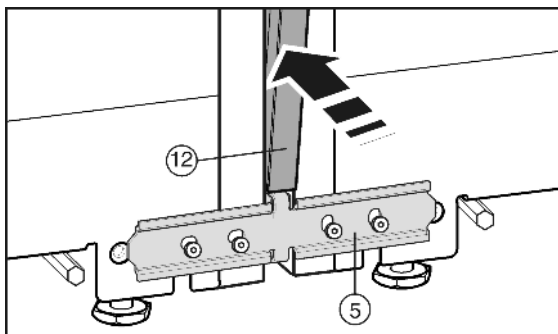

Fig. 9
Before fitting the cover strip *Fig. 9 (12)*, press the two bars together along the whole length. That makes it easier to insert the strip into the gap. Use a soft cloth to press the strip into place to avoid making dents in the surface. Carefully press the strip into the gap, keeping it straight, to achieve an optimal joint.
- ▶ On the front, press the long cover strip *Fig. 9 (12)* into the vertical gap. Make sure the strip sits on top of the joining plate *Fig. 9 (5)*.